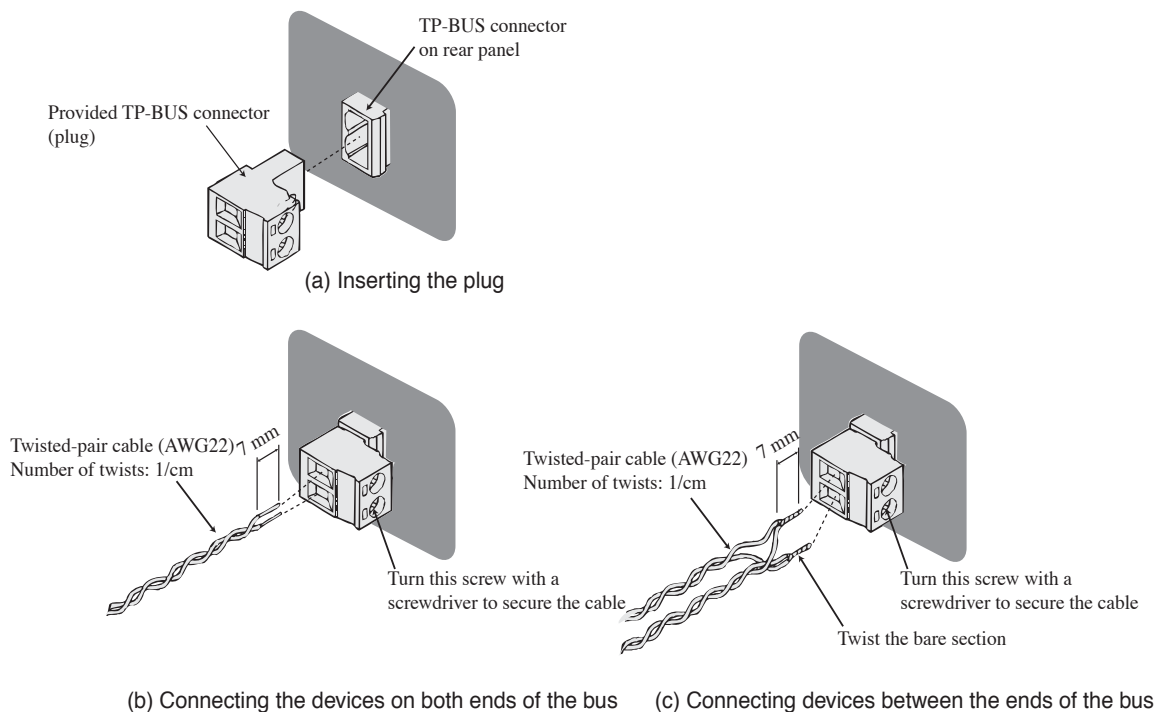

Fig. 1-3 Connecting to TP-BUS connectors
2. Insert the provided TP-BUS connector (plug) to the TP-BUS connector on the rear panel. See Fig. 1-3 (a).
4. As shown in Fig. 1-3 (b) and (c), insert the cable in the connector.